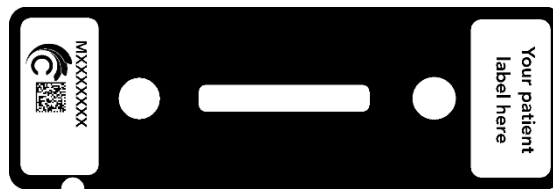

Fig. 2 | Space for patient identification label on the CellScape™ chip (label not included)
- Apply the patient identification label on the CellScape™ chip at the position indicated in Figure 2 (optional; label not included in the kit).